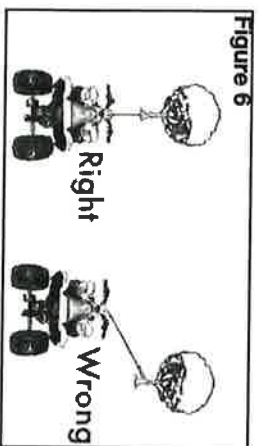

Figure 5
11. It is a good idea to lay a heavy cloth (such as a blanket or tarp) over the wire rope near the hook end when pulling heavy loads (Figure 5). If a wire rope failure should occur, the cloth will act as a damper and help prevent the wire rope from whipping.